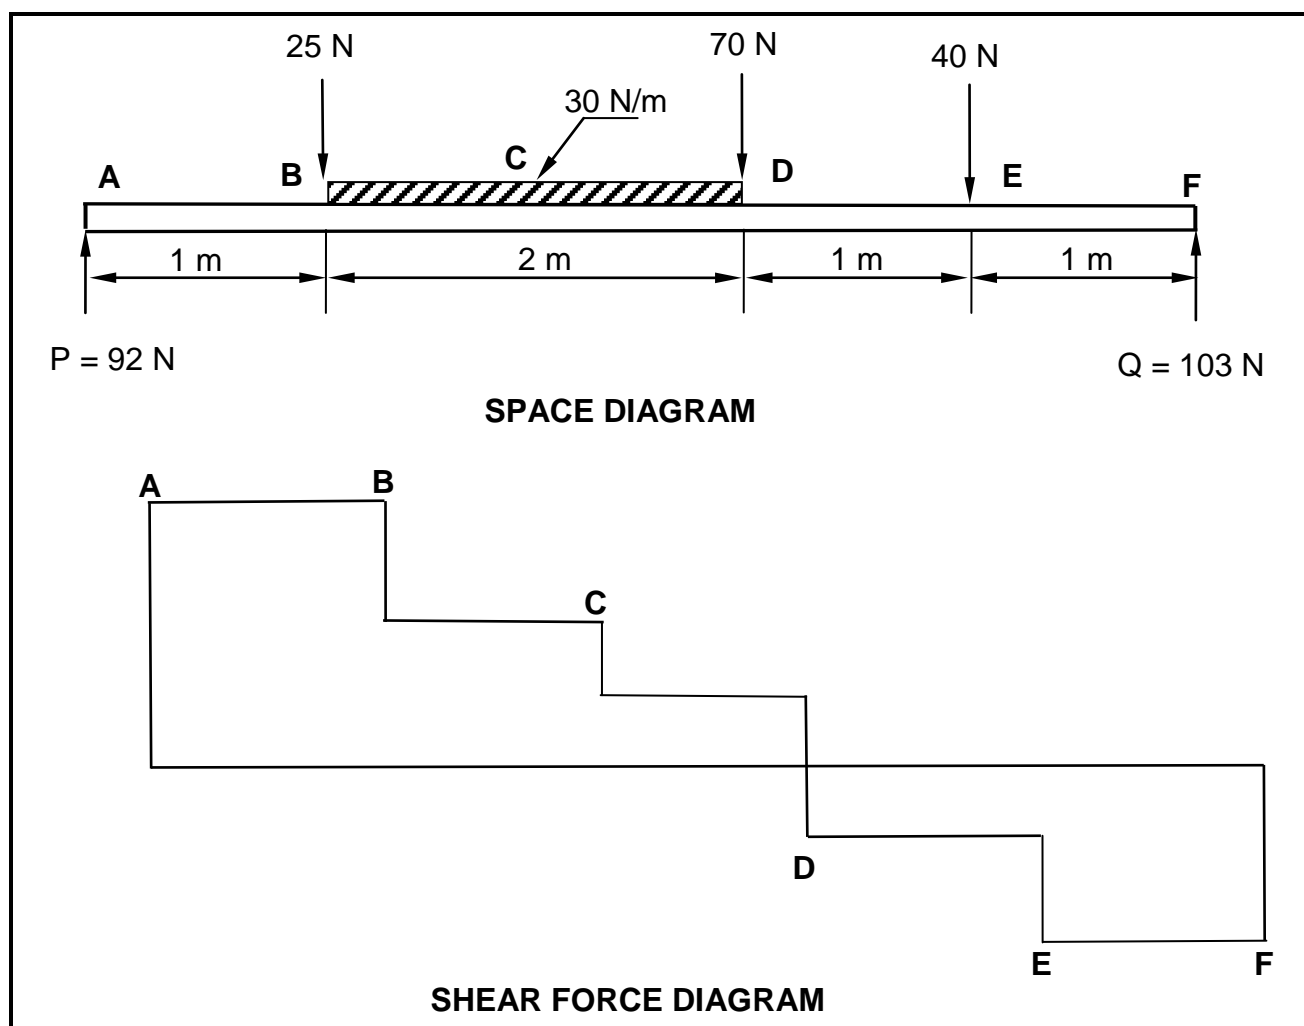

FIGURE 5.1
- 5.1 FIGURE 5.1 below shows the space and shear force diagrams of a beam with TWO point loads and ONE uniformly distributed load. Analyse the diagrams and answer the questions that follow.